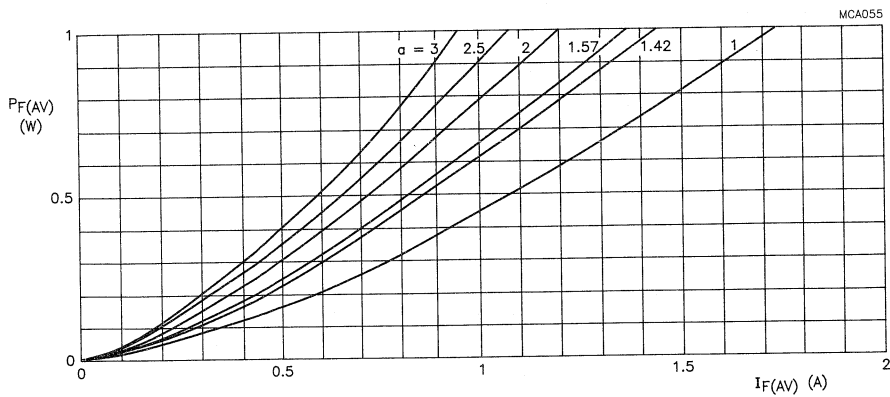

Fig.4 1N5817. Maximum values steady state forward power dissipation as a function of the average forward current;
6. Determine the  $I_{F(AV)}$  rating from Figs 4, 5 or 6.